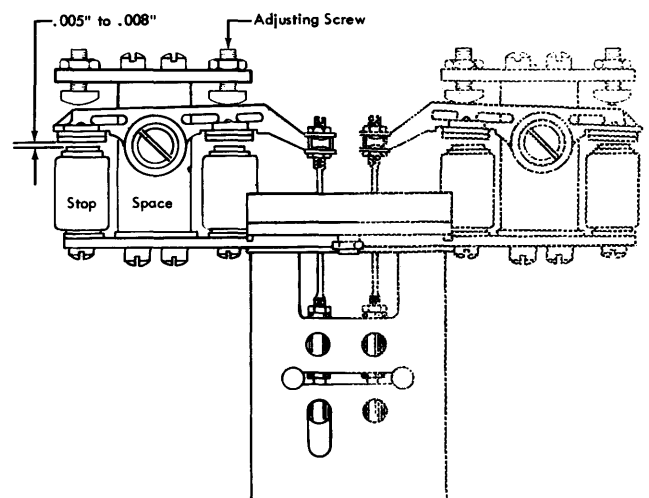

Figure 45. Space Stop Magnet Energized
5. With the space-stop magnet energized, adjust the back stop screw nearest the operating rod for .005" to .008" clearance (preferably .005") between the armature and the stop-magnet cores (Figure 45).